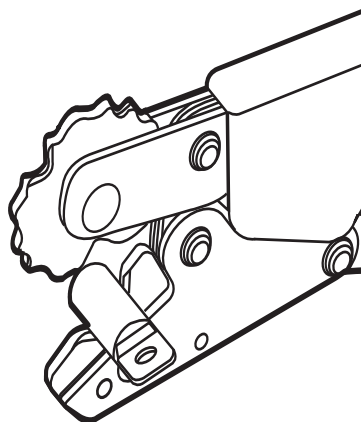

Figure 2
3. Insert terminal into the nest as shown in Figure 2.